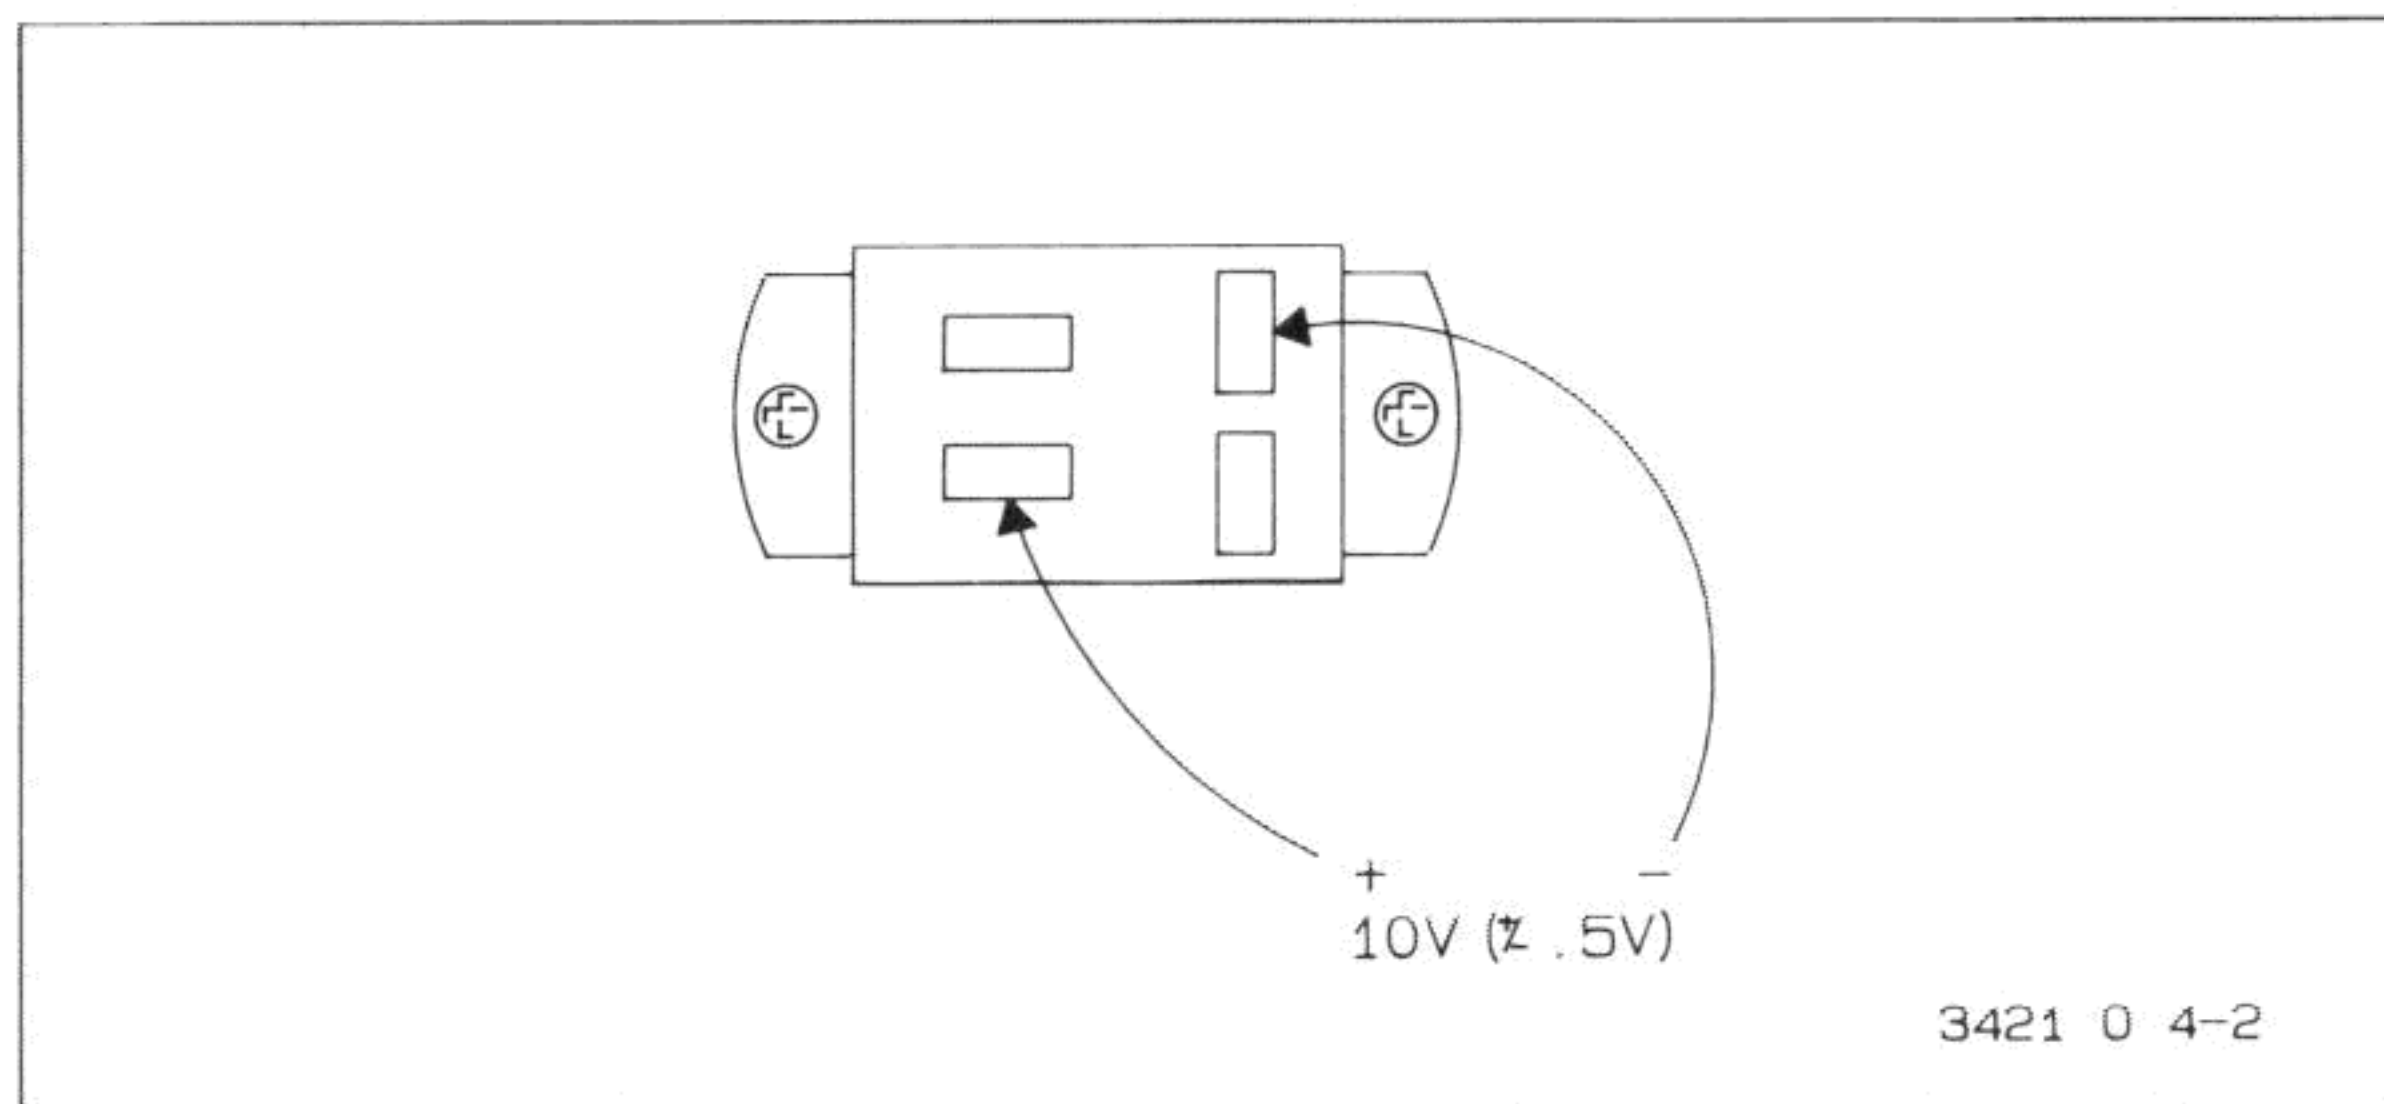

Figure 5-4-2. HP-71B Power Supply Connections
2. Refer to Figure 5-4-2 and check for 10 Vdc ($\pm .5$ V) at the rear panel connector, as indicated in the figure. If the voltage is correct but incorrect or missing in step k, the cable assembly is defective.